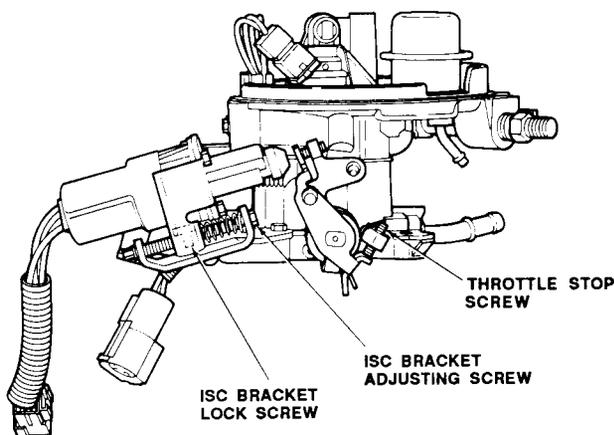

Figure F050-4
1. With the ISC motor retracted and disconnected (if applicable), back out the throttle stop screw until the throttle is closed and a 0.005-inch (0.13 mm) gap exists between the screw tip and the throttle lever (Figure F050-4).